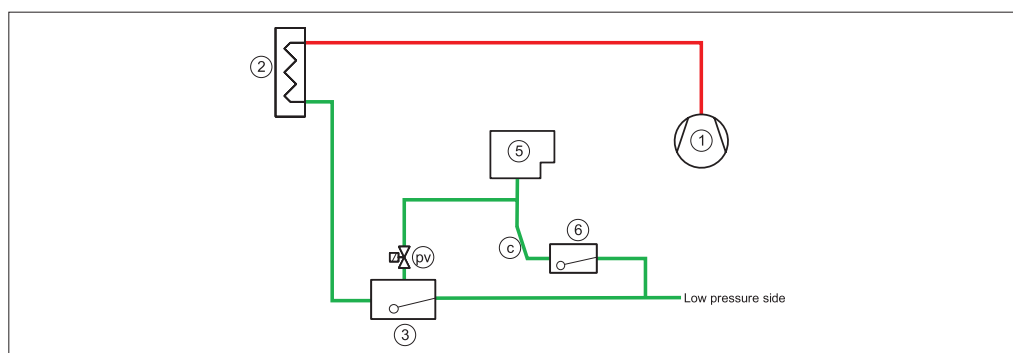

Fig. 8 Purger connections (pv). Drain Piping (c) must be vertical/downward slope
For systems with a high-pressure liquid level control, the air will collect in the float valve (3). (See Fig. 8).